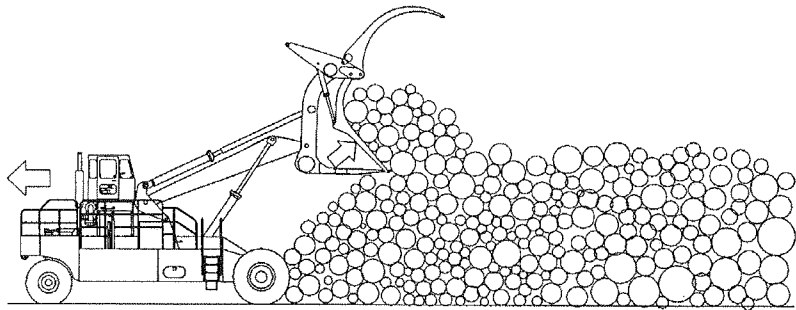

Fig 4-12
- Move up to the deck with the load lifted to the necessary height. Place the drive wheel tires tight against the bottom logs, as this firms up the deck and helps prevent logs from shifting when you place the new load on top. See Fig. 4-12